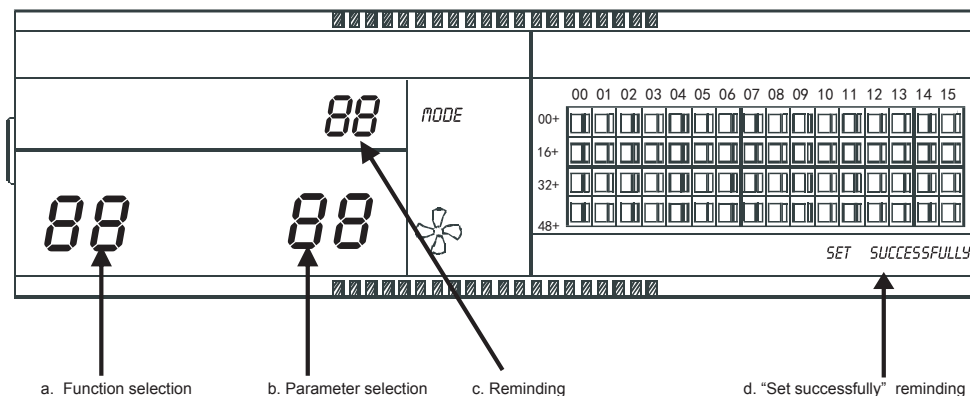

Fig 2.9 Filter net in addition to the dust function involves of show a contents
① Dial the dial code 3 to “ON”, select the “Has optional function” referring to table 2.1 to , and then power on the centralized controller, in 1 minute press “” key and hold on then press “” key, enter to optional function setting. Dual eight represented function selection (Fig.2.9 a) will be flashed with 1Hz frequency (default display 00), display the optional function code (see table 2.2). Press “” and “” keys to select function, and then press “” key to enter parameter selection.
②After enter parameter selection, dual eight represented function selection will be lighted on, dual eight represented parameter selection (Fig.2.9 b) will be flashed with 1Hz frequency, display optional parameter code. Through pressing “” and “” keys to select the detailed parameter.
③Press “” to confirm parameter selection(details parameter codes’ corresponding time refer to table 2.3).
④After setting successfully, Dual eight represented function selection and dual eight represented function selection will be lighted on, the screen will display “Setting successfully” (Fig. 2.9 d). After 3 seconds will auto exit optional function setting. The screen will back to normal display.